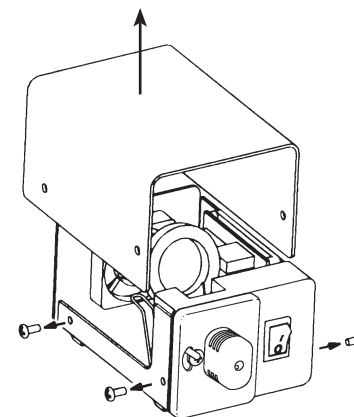

Figure 3. Cover Removal
2. Remove 2 screws from either side of the LS-ARC Light Source and remove the cover to expose the lamp (see Figure 3).